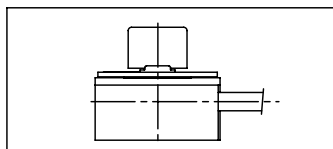

FIG. 2: VANE POSITION INDICATOR
- Vane position indicator (figure 2)